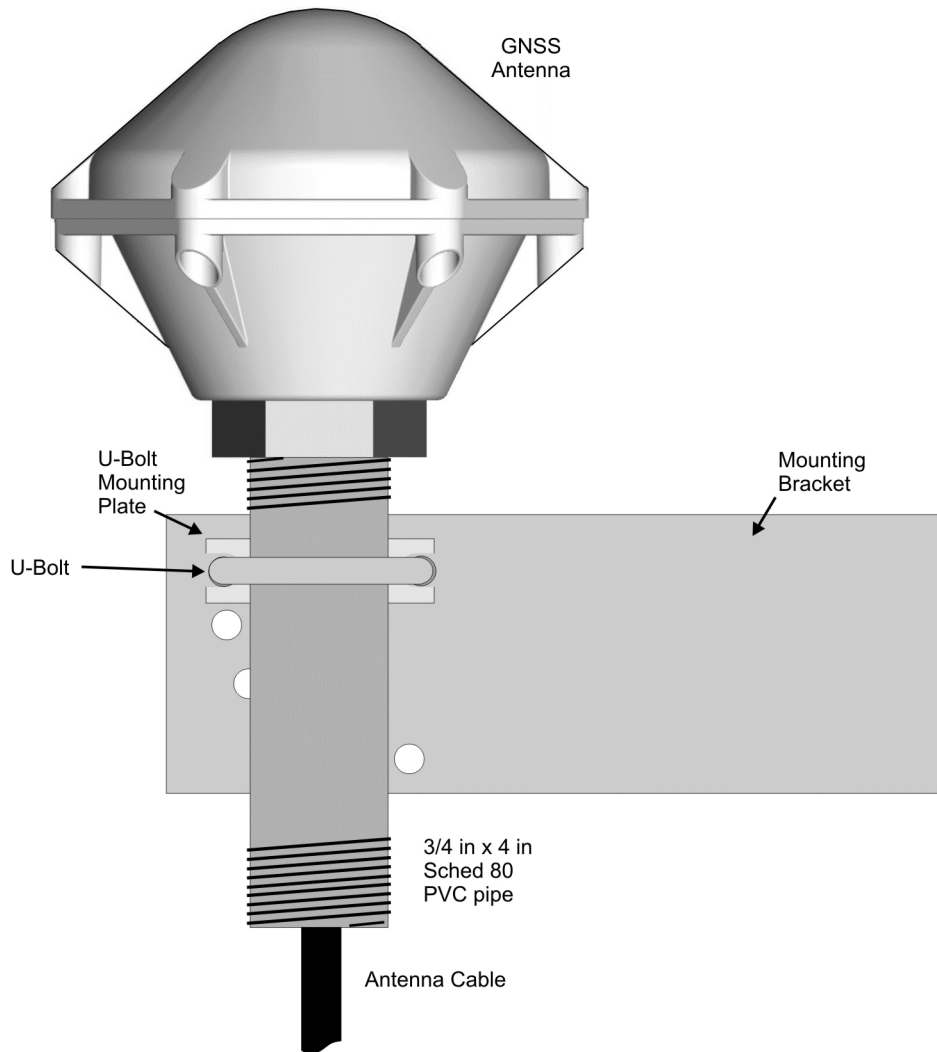

Figure 3: Mounting the Antenna Assembly to the Bracket
2. Feed the ends of the U-bolt through the U-bolt mounting plate and the appropriate holes on the mounting bracket, as shown in Figure 3. Note: For mounting surfaces that are not perfectly horizontal or vertical, refer to Section - Mounting the Bracket to an Angled Object or Surface.